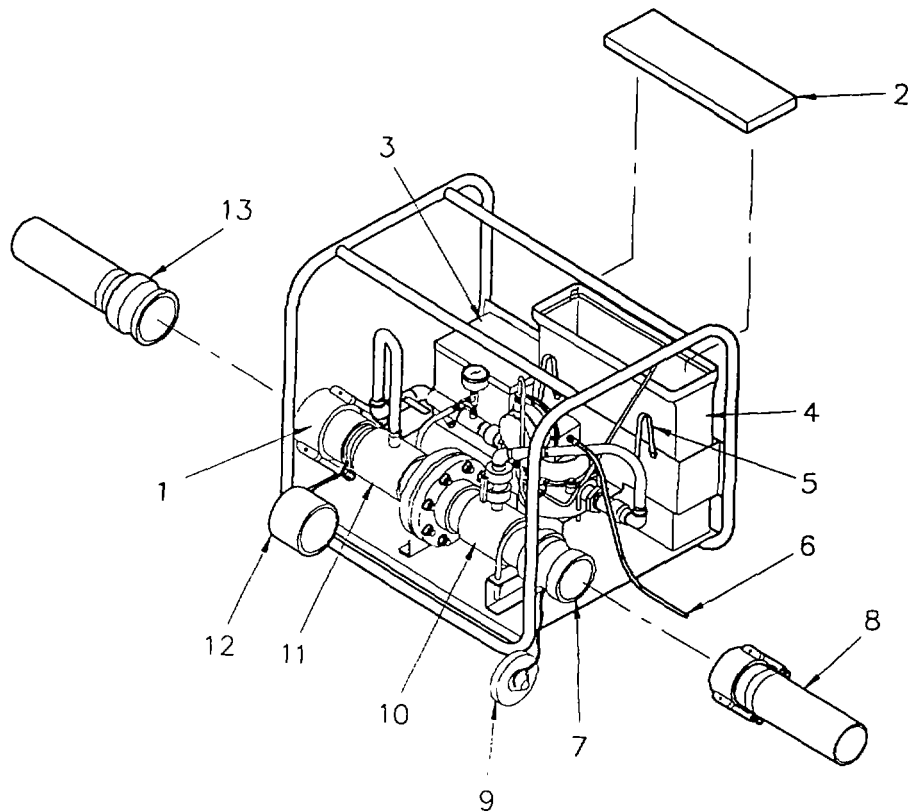

Figure 2-2. Preparation for Use
- b. Remove cover (2, Figure 2-2) from reservoir (4) by loosening velcro straps (5) and removing reservoir lid.
- c. Remove and retain technical manual from tool box (3).
- e. Place the hypochlorination unit in a position that prevents hypochlorite solution from spilling from the reservoir (4).
- f. Remove quick disconnect plug (12) from the female coupling (1) on manifold inlet (11).
- g. Connect hose (13) from water supply to female coupling (1) on manifold inlet (11).
- h. Remove quick disconnect cap (9) from male coupling (7) on manifold outlet (10).
- i. Connect discharge hose (8) to male coupling (7) on manifold outlet (10).
- j. Position drain line (6) to direct water flow away from unit.